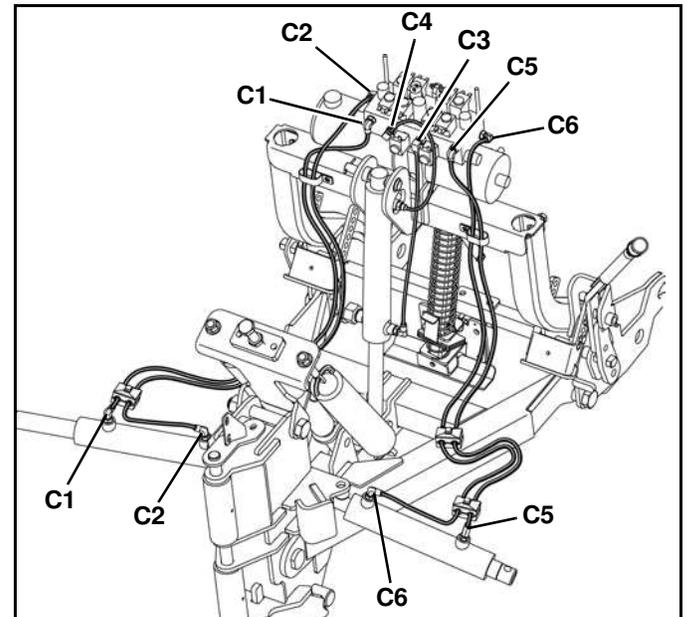

Figure 1-16
12. Loosely connect hydraulic hoses to the lift and swing cylinders. (See Figure 1-16).